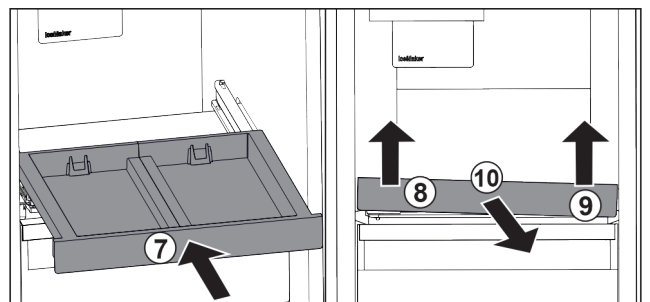

Fig. 102
- Slide in the pull-out board. Fig. 102 (7)
- Lift the pull-out board on the front left. Fig. 102 (8)
- Lift the pull-out board on the front right. Fig. 102 (9)
- Take out the pull-out board to the front. Fig. 102 (10)